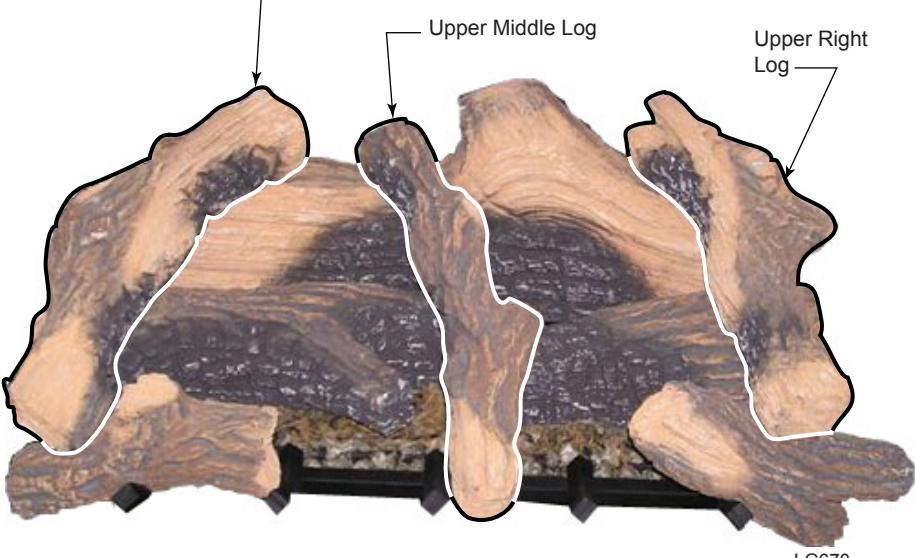

Figure 63 -
7. Place the upper left log by matching the two protrusions on the rear and left middle logs with the notches on the bottom of the upper left log. *Figure 63*
8. Place the upper middle log by matching the protrusions located at the middle of the rear log with the notch on the bottom of the log. Rest the front end of the log on the right side of the middle tong of the grate. *Figure 63*
9. Place the upper right log by matching the two protrusions on the rear and right middle logs with the notches on the bottom of the upper right log. *Figure 63*